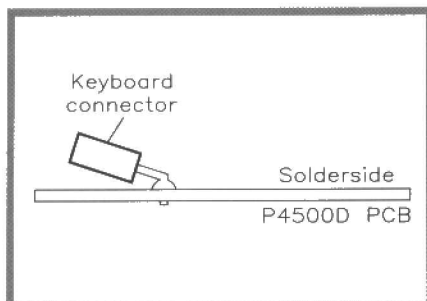

Figure 4. Fitting the keypad connector.
13. Keyboard connector. This is installed on the track side of the PCB, as shown in Figure 4. Be careful not to melt the body of the connector, as far as is possible!